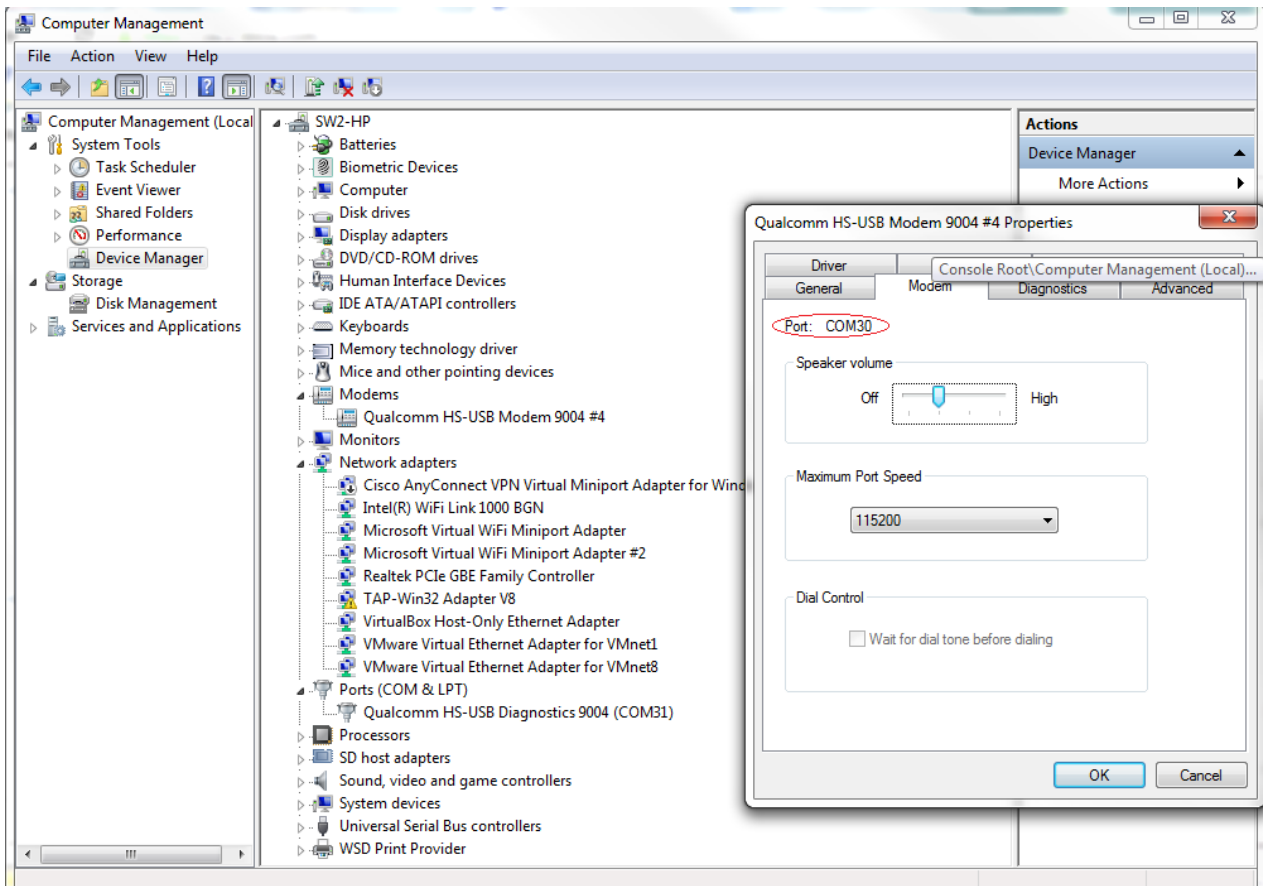

Figure 5: Serial Port for AT commands
- /ttyUSB0 and /ttyUSB1 if a USB cable is connected to **Native USB** connector (see Figure 5 for a sample screenshot)